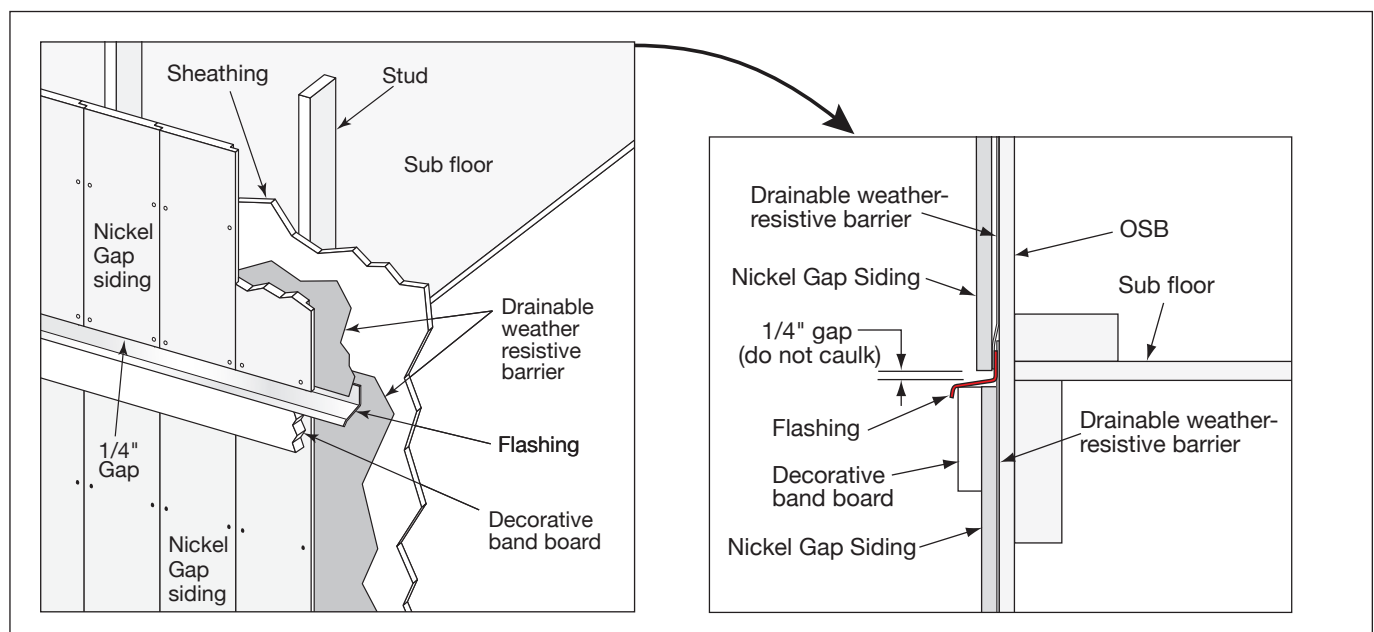

Fig. 25
- 1/4" minimum gap must be maintained above the flashing (**Fig. 25**)